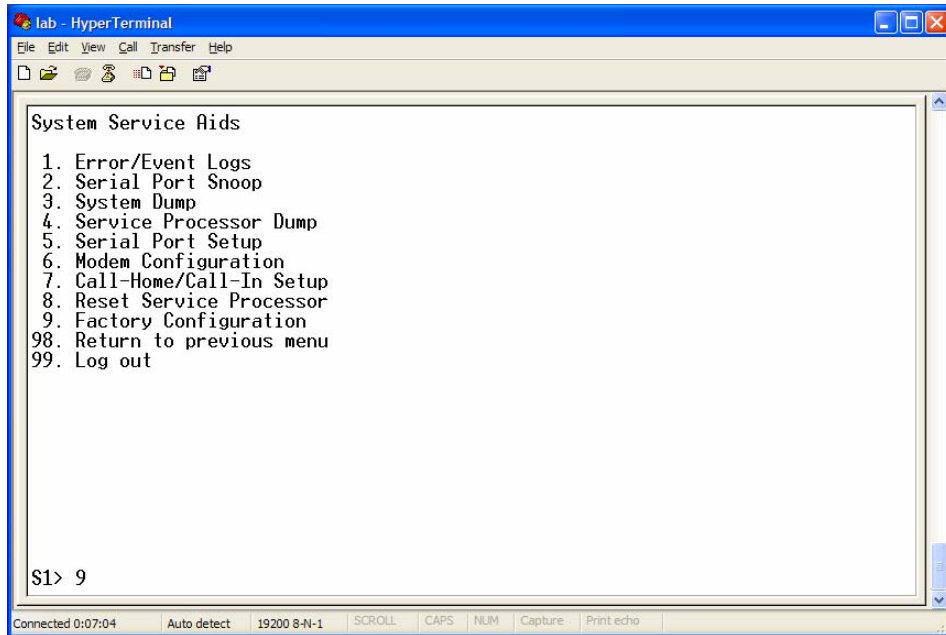

Figure 7. Selecting **Factory Configuration**
- iii. Reset the System p model by selecting **Factory Configuration** (see Figure 7). Then, press **Enter**.